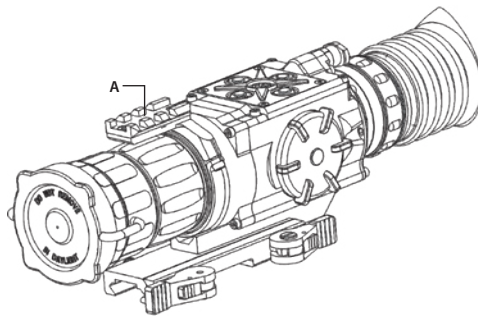

FIGURE 3-5. THE DRONE PRO FULLY ASSEMBLED WITH THE PLATFORM RING
Figure 3-5 shows the Drone PRO with the Platform Ring adapter (A, Figure 3-5) installed.
1. Using a 1.5 hex key, unscrew the both clamp screws (C).
2. Place the clamps (B, D) onto the mounting tube (as in Figure 3-5). Screw the clamps together without tightening the screws (C).
3. Adjust position of the Platform Ring until its rail (A) is level. Apply a small amount of thread lock to the threads and tighten the screws (C).